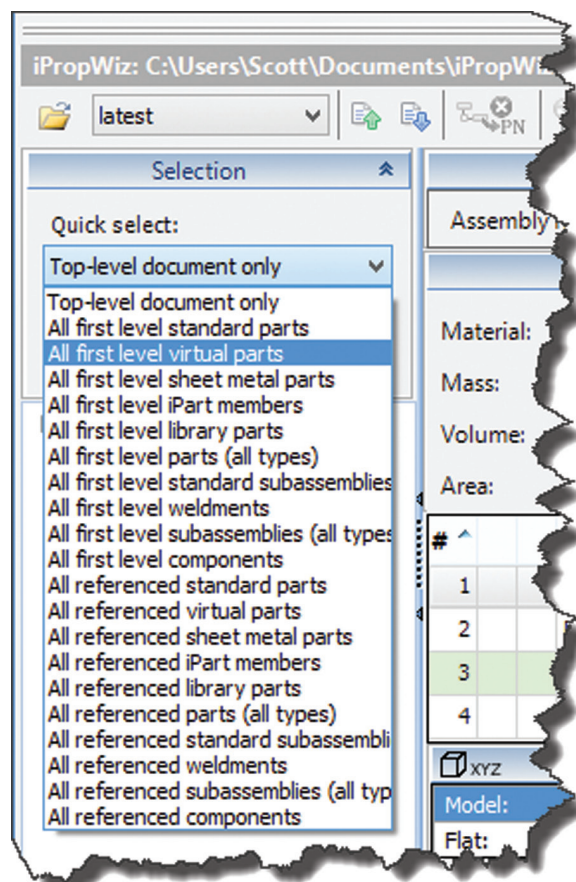

Figure 13: There are many more filters in this release
- A raft of new filters has been added in the quick select list (see Figure 13).